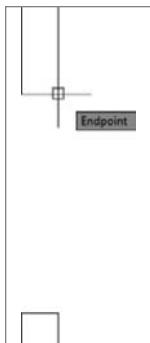

FIGURE 4.45 The Endpoint osnap marker
9. Move the cursor near the right side of the upper jamb line. When the cursor gets very close to a line, a colored square, called a *marker*, appears at the nearest endpoint along with a tooltip that indicates which osnap is active, as shown in Figure 4.45. This shows you which endpoint in the drawing is closest to the position of the crosshair cursor at that moment.